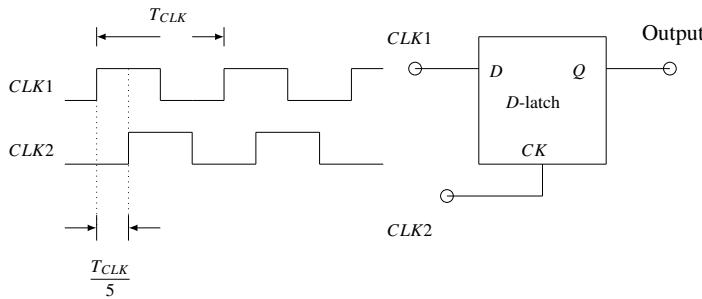

Fig. 5.15
15. Consider the *D*-Latch shown in Fig. 5.15, which is transparent when its clock input *CK* is high and has zero propagation delay. In the figure, the clock signal *CLK1* has 50% duty cycle and *CLK2* is a one fifth period delayed version of *CLK1*. The duty cycle at the output of the latch in percentage is \_\_\_\_\_. (GATE-EC2017)